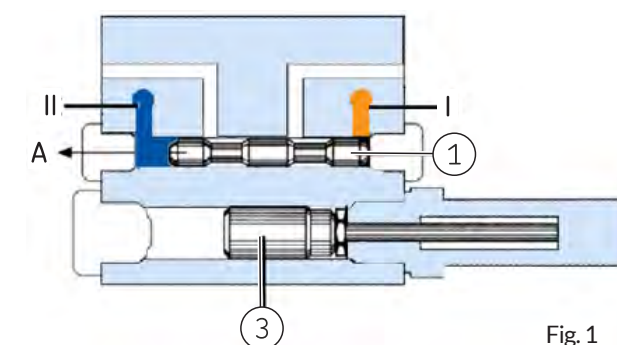

Fig. 1
The lubricant is supplied under pressure to the metering device via main line I. The control piston (Fig. 1/1) moves in the direction of the arrow (A) and pushes back the lubricant in front of the control piston via the depressurized main line II.